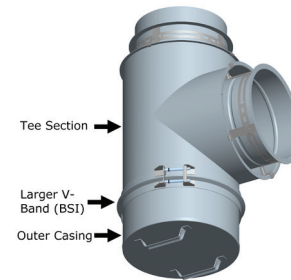

Figure 33d: Tee Cap insulated casing Step 5 and 6
- 6 - Secure with the bigger V-band (BSI) by tightening the retaining screw. See **Figure 33d**.